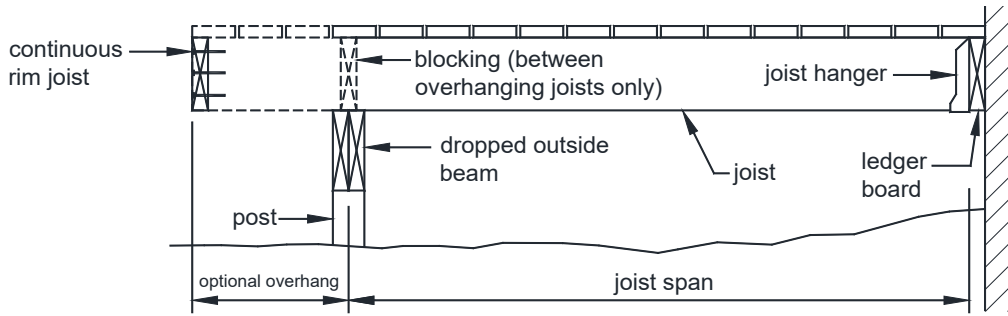
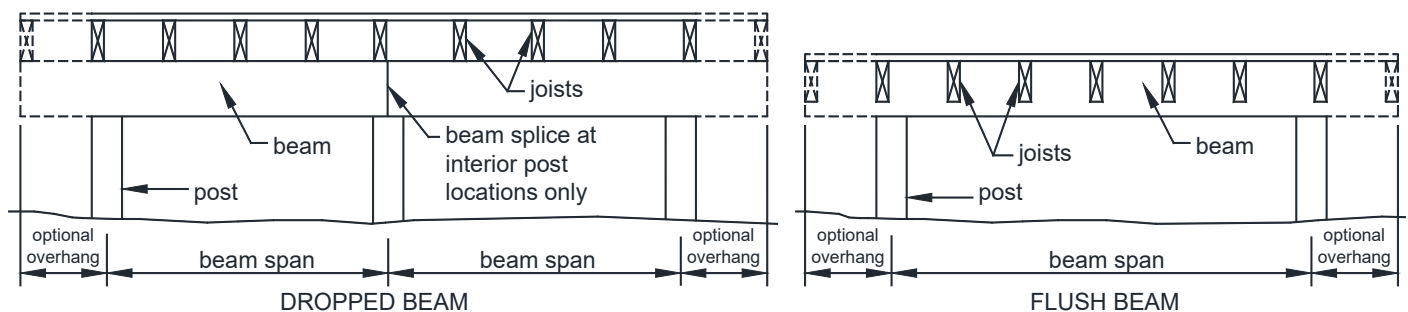

FIGURE 5: SINGLE SPAN DECK - JOISTS ATTACHED AT HOUSE WITH DROPPED BEAM
FIGURE 13: BEAM TYPES
- Single span decks are framed with joists that have one span between supports (not including overhang) as shown in FIGURES 5 and 6. Multi-span decks have joists with more than one span which bear on multiple beams as shown in FIGURES 7 and 8.
- Attach a continuous rim joist or blocking at the joist ends as shown in FIGURES 5, 7 and 9. Attach a rim joist to the end of each joist with (3)10d nails or (3) #10 by 3-inch wood screws.
- Dropped beams have joists bearing above; flush beams have joists with hangers bearing on its sides; see FIGURES 5 through 9 and FIGURE 13.
- Beam span length, as shown in FIGURE 13, is measured between the centerlines of two adjacent posts and does not include the beam overhangs.
- Beam plies are permitted to have splices. However, splices shall be located at inside posts connections as shown in FIGURE 13.